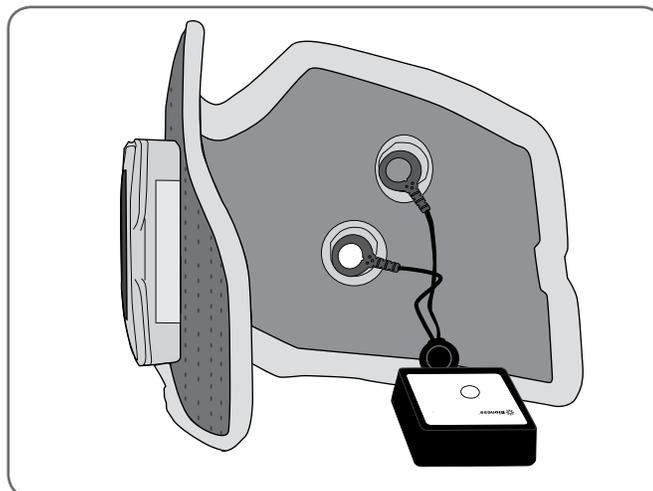

Figure 15-1: L300 Tester connected to the Regular L300 FS Cuff.
1. Connect the L300 Tester to the FS Cuff. See Figure 15-1.